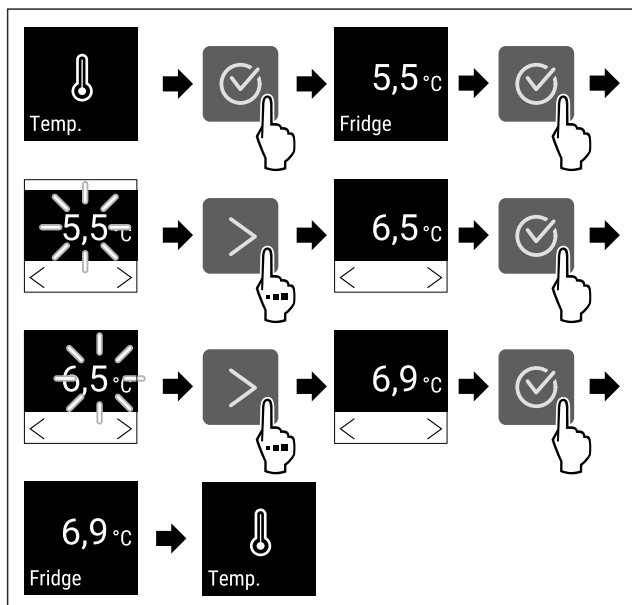

Fig. 69 Changing temperature from 5.5 °C to 6.9 °C
- ▶ Complete steps (see Fig. 69).